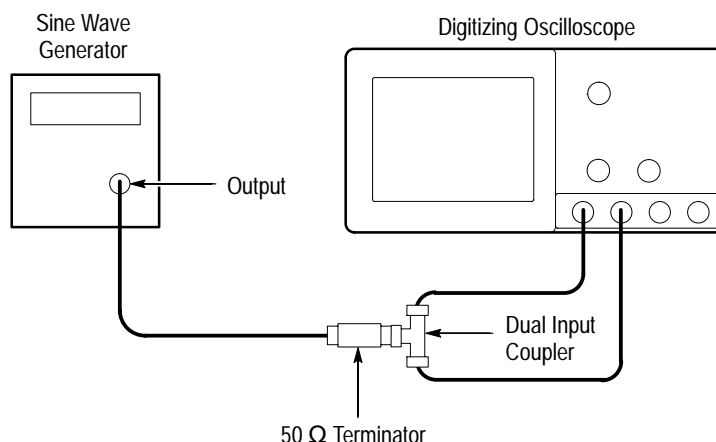

Figure 4–8: Initial Test Hookup
- Connect the sine wave output of a sine wave generator to a 50  $\Omega$  precision coaxial cable, a 50  $\Omega$  termination, and a dual-input coupler. (See Figure 4–8.)
- Locate the point on the rising edge of the left-most waveform where it crosses the center horizontal graticule line. This is the *time reference point* for this waveform. Note the corresponding *time reference point* for the right-most waveform. See Figure 4–9.
- Rotate the General Purpose knob to align one cursor to the *time reference point* of the left-most waveform edge and the other cursor to the *time reference point* of the right-most waveform edge. (Press **TOGGLE** to switch between the two cursors.) See Figure 4–9.